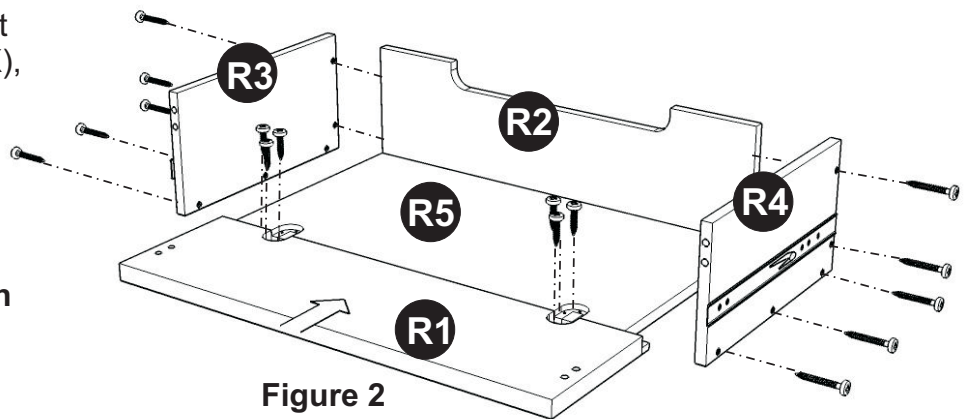

Figure 2
(Figure 2)
Assemble Foot (F), (G) and (H) with Cam Locks (see Figure 2).
Attach R1 to R5 with short wood screws (6X). (see Figure 2)